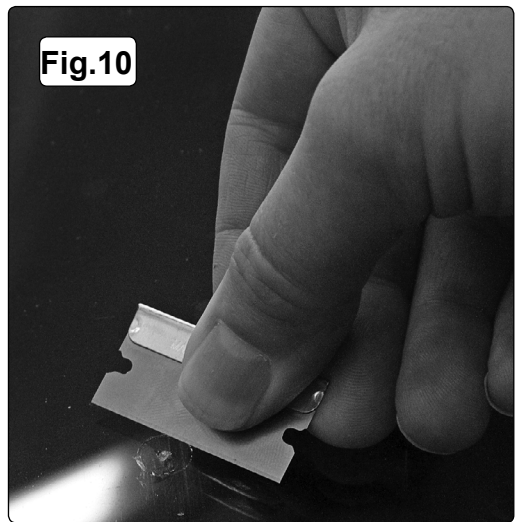

Fig.10
4.15. Use the razor blade to scrape away the excess resin. (See fig.10).